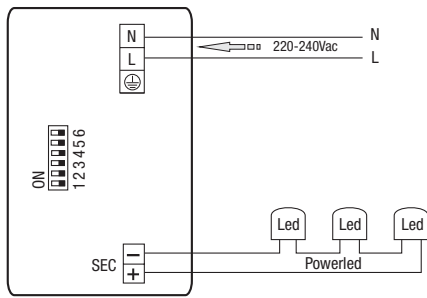

Fig. 2 - RN9168
**A - Funzione 0÷10Vdc (S10) - DIM34... (R) - Fig. 2 -** Tramite segnale di controlli 0÷10Vdc
**A - 0÷10Vdc (S10) function - DIM34... (R) - Fig. 2 -** By means of control signal 0÷10Vdc